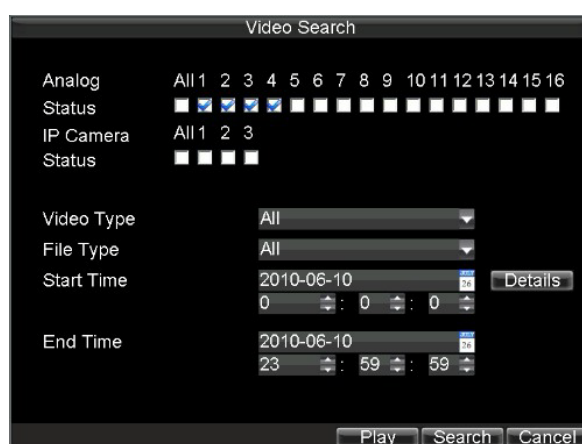

Figure 6. Video Search Menu
1. Enter the Video Search menu by navigating to Menu > Video Search. The Video Search menu is shown in Figure 6.